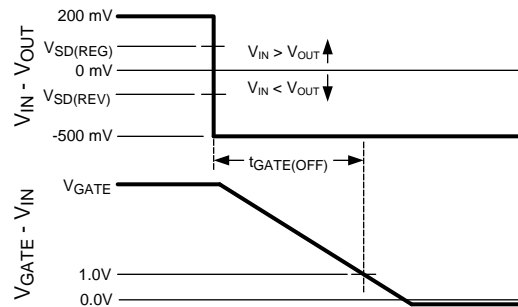

Figure 4. Gate Off Timing for Forward to Reverse Transition
(1) Measurement of  $V_{GS}$  voltage (i.e.  $V_{GATE} - V_{IN}$ ) includes  $1\text{ M}\Omega$  in parallel with  $C_{GATE}$ .
(2) Time from  $V_{IN} - V_{OUT}$  voltage transition from  $200\text{mV}$  to  $-500\text{mV}$  until GATE pin voltage falls to  $V_{IN} + 1\text{V}$ . See Figure 4